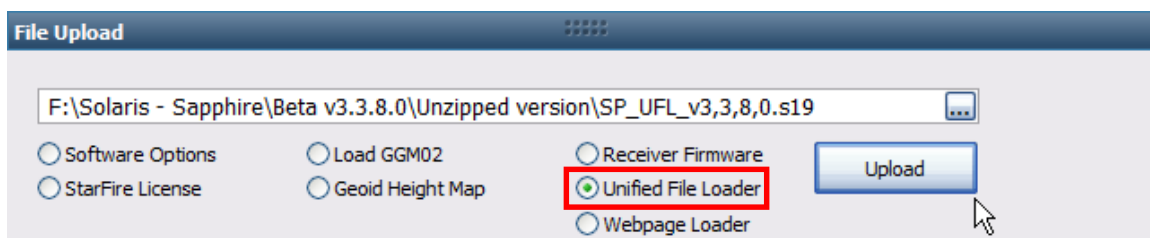

Figure 65: File Upload – Unified File Loader Option
2. Select *Unified File Loader* on the *File Upload* window (see Figure 65).
5. Select the appropriate unified (SP_UFL) file to upload and click  (see Figure 65).